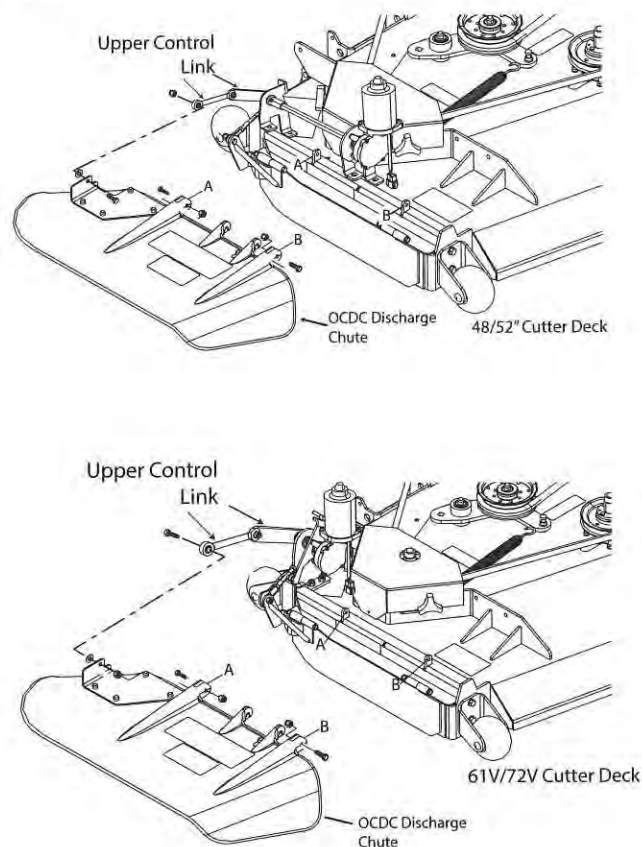

Figure 3-39. Discharge Chute Installation
16. Install the E-OCDC discharge chute to the cutter deck. Secure using two (2) 5/16-18 x 1-3/4" bolts and two (2) 2 5/16-18 elastic stop nuts. See Figure 3-39.
18. Secure the upper control link to the E-OCDC discharge chute using one (1) 5/16-18 x 1-1/4" bolt and one (1) 5/16-18 elastic stop nut. A spacer will be required to install the 61 and 72 inch discharge chutes. See Figure 3-39.